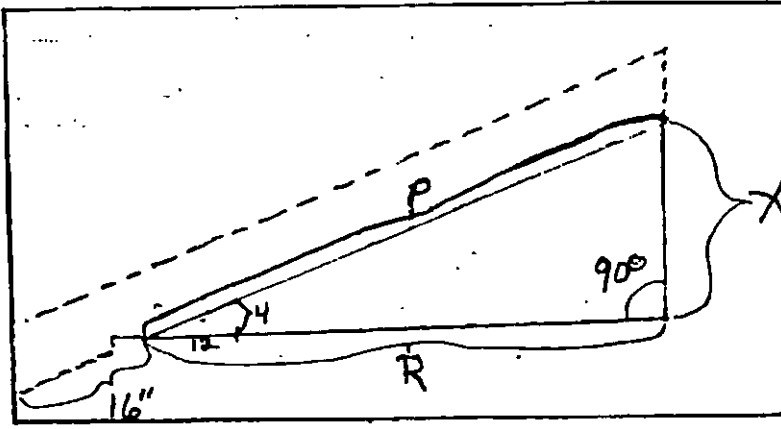

FIGURE 45
- Step 4A. Using the ratio of rise over run from the pitch chart (e.g. 4"/12) compute the length of X (Use the formula $4/12 = X/R$ or $x = 4 \times R/12$). (See Fig. 45)